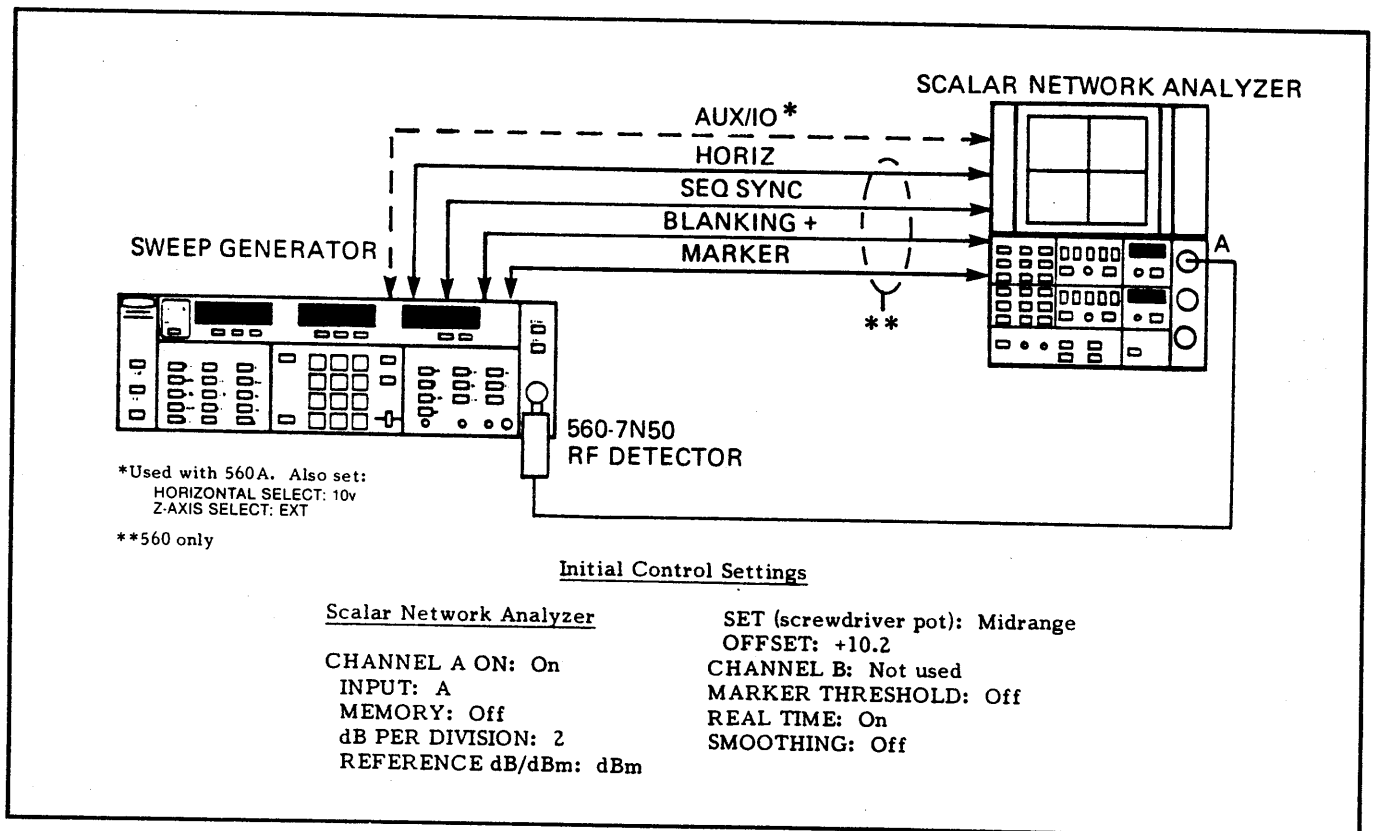

Figure 5-26. Test Equipment Setup for Tracking Filter Adjustments
- Connect test equipment as shown in Figure 5-26, and turn the equipment on.